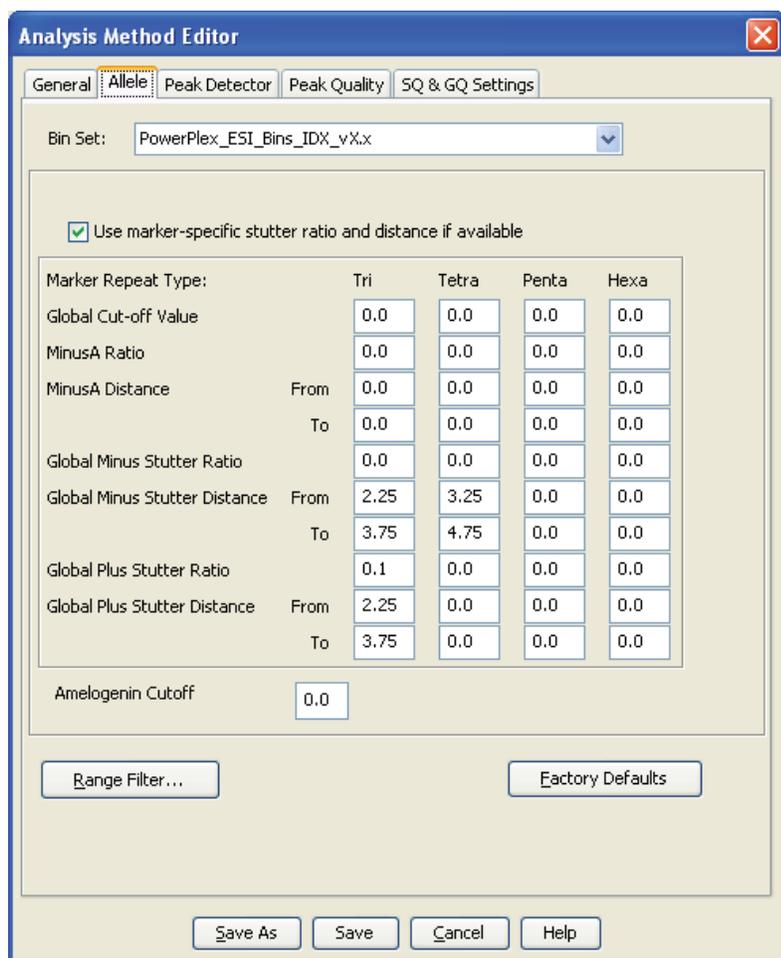

Figure 22. The GeneMapper® ID-X 'Allele' tab.
6. Select the ‘Allele’ tab (Figure 22).
9. We recommend the values shown in Figure 22 for proper filtering of stutter peaks when using the PowerPlex® ESI 17 Pro System. You may need to optimize these settings. In-house validation should be performed.